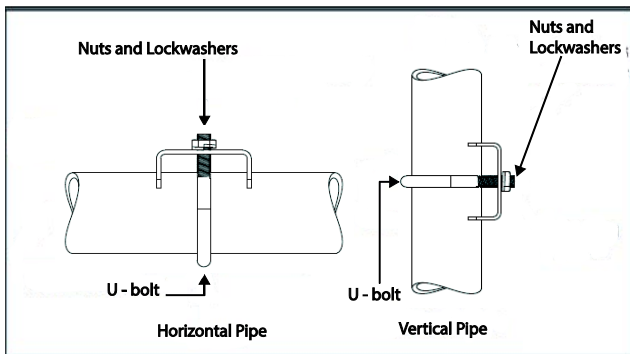

Figure 2: Pipe Mounting Bracket Secured to a Horizontal or Vertical Pipe
1. Align the two mounting holes in the transmitter with the two slots in the mounting bracket and assemble the (2) M8 hex cap screws, (2) lockwashers and (2) flat washers provided. Rotate transmitter assembly to the desired position and torque the M8 hex cap screws to 27,0 Nm/20,0 Lb-ft maximum.
2. Pipe Mount Option: Refer to Figure 2. Position the bracket on a 2-inch (50.8 mm) horizontal or vertical pipe, and install a "U" bolt around the pipe and through the holes in the bracket. Secure the bracket with the nuts, flat washers and lock washers provided.
Optional mounting bracket, see Figure 2
Existing mounting bracket, see Figure 2